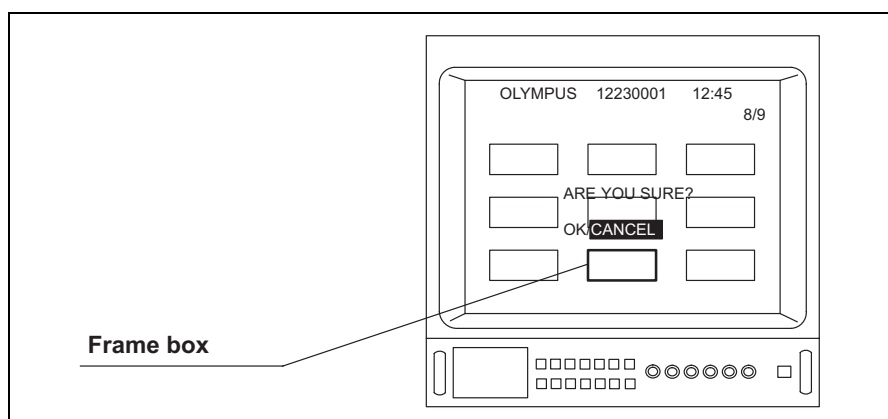

Figure 5.109
3. Depress the menu switch "■" for approximately 1 second or the "Delete" key on the keyboard. The menu shown in Figure 5.109 is display on the video monitor.